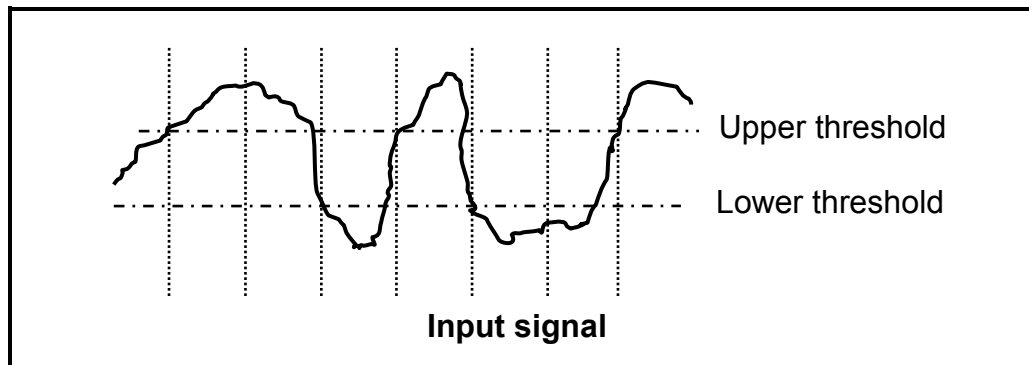

FIGURE 7.4: INPUT SIGNAL OF A SCHMITT TRIGGER OP AMP (4)
7.9.2 Redraw all the time intervals illustrated in FIGURE 7.4 in the ANSWER BOOK and draw the output of the Schmitt trigger from the input signal shown in FIGURE 7.4 below. Label ALL the parts.